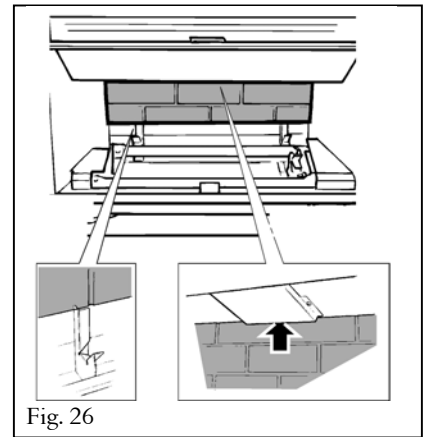

Fig. 26
- 7.8.1 Install the ceramic rear wall at the back of the firebox (see fig.26). The wall has “BASE” embossed at the bottom. Make sure that the wall is behind the metal channel at top of the firebox